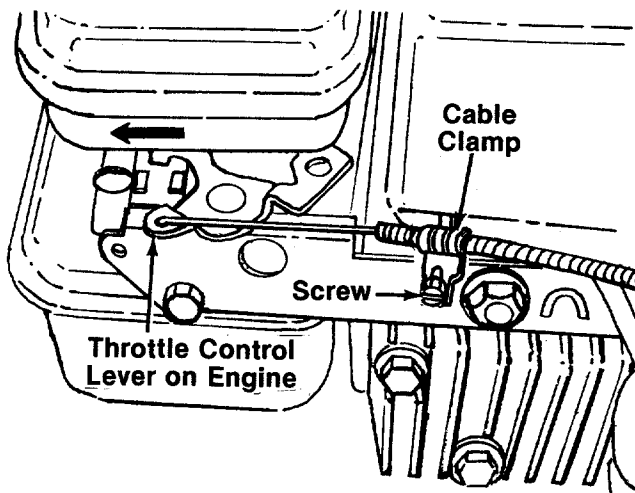

FIGURE 10.
15. Push the throttle control lever on the engine to the full open position (as far toward the outside of the unit as it will go) as shown in figure 10.
17. Remove the screw on the cable clamp shown in figure 10. Slip the control casing under the clamp. With the throttle lever on the engine still in the full open position, tighten the screw to secure the throttle control cable.